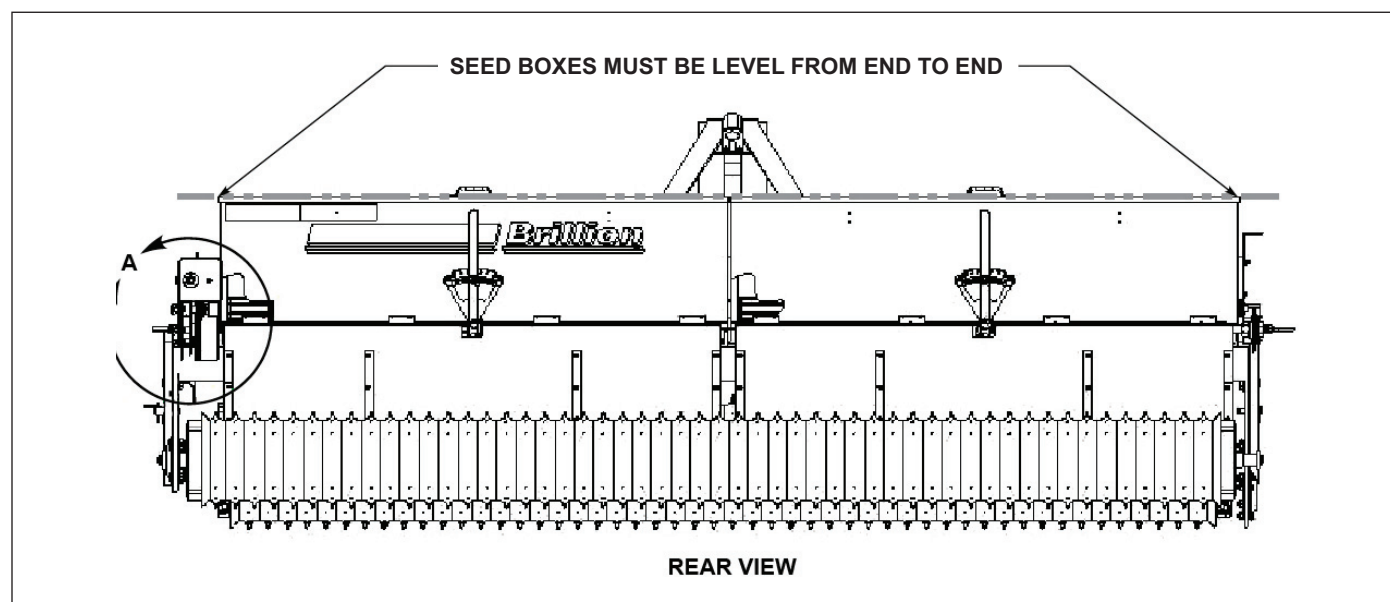

Figure 5-17: Seed Box Level and Straight
- Check that Seed Boxes are level and straight from end to end. Loosen and adjust Seed Boxes from the center and right hand end brackets if necessary. It may also be necessary to make an adjustment of the Left Hand Seed Box on the Transmission. **See Figure 5-17.**